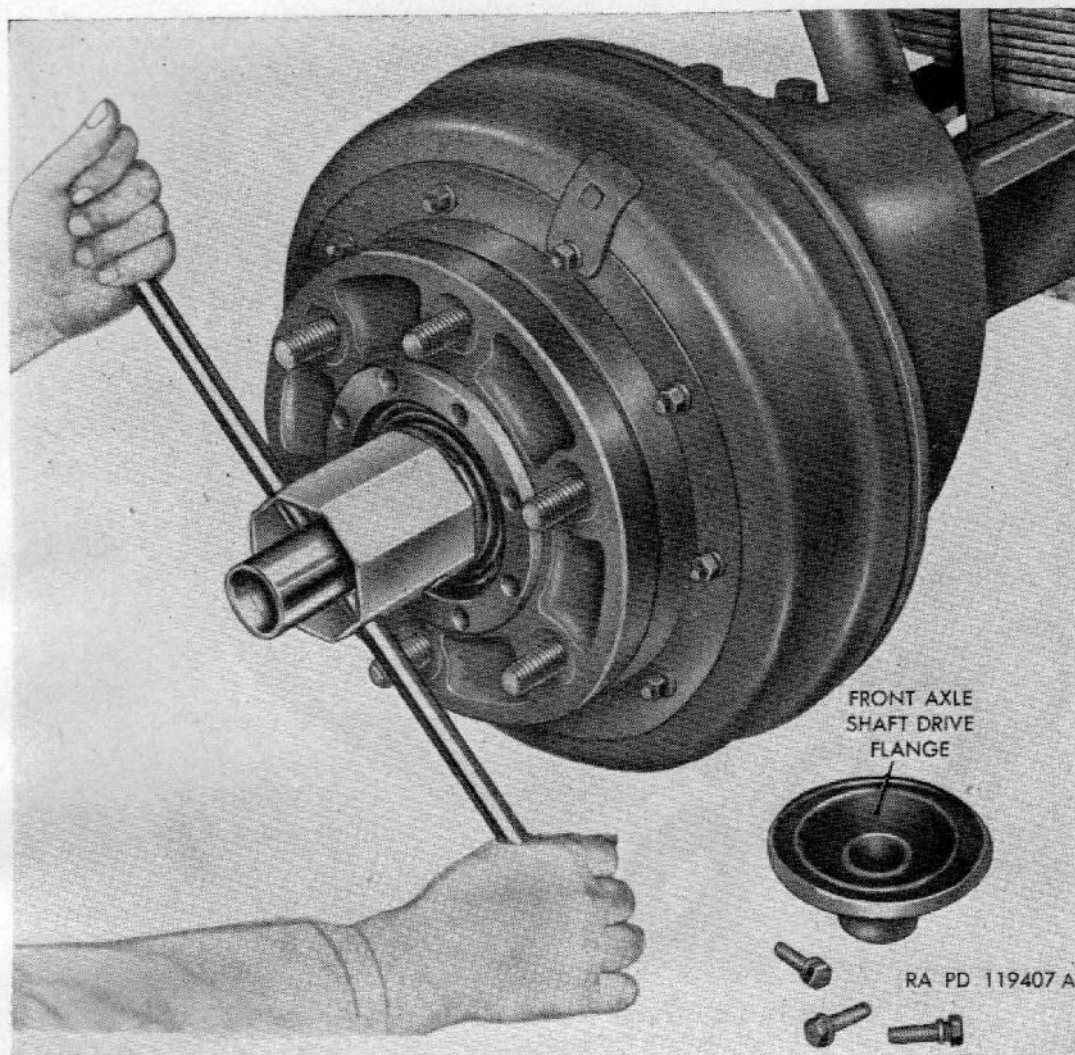
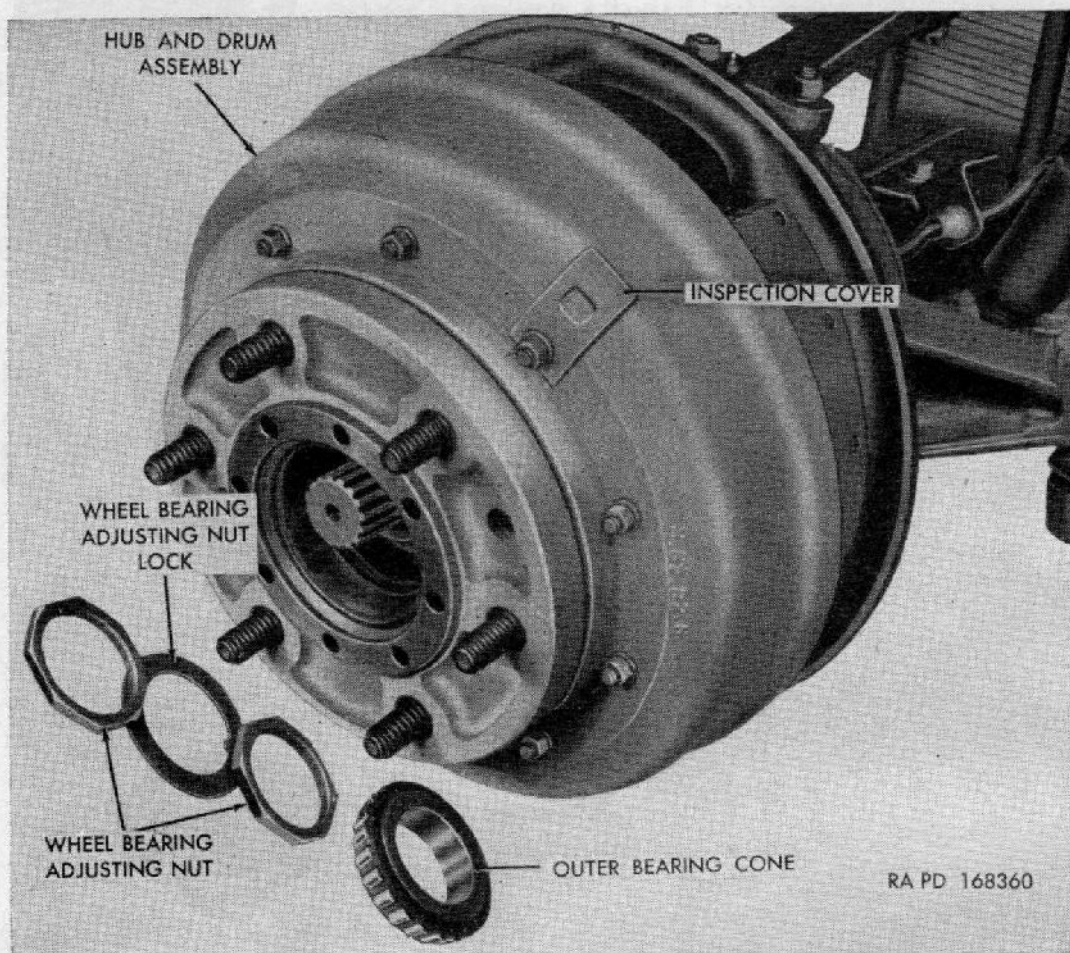
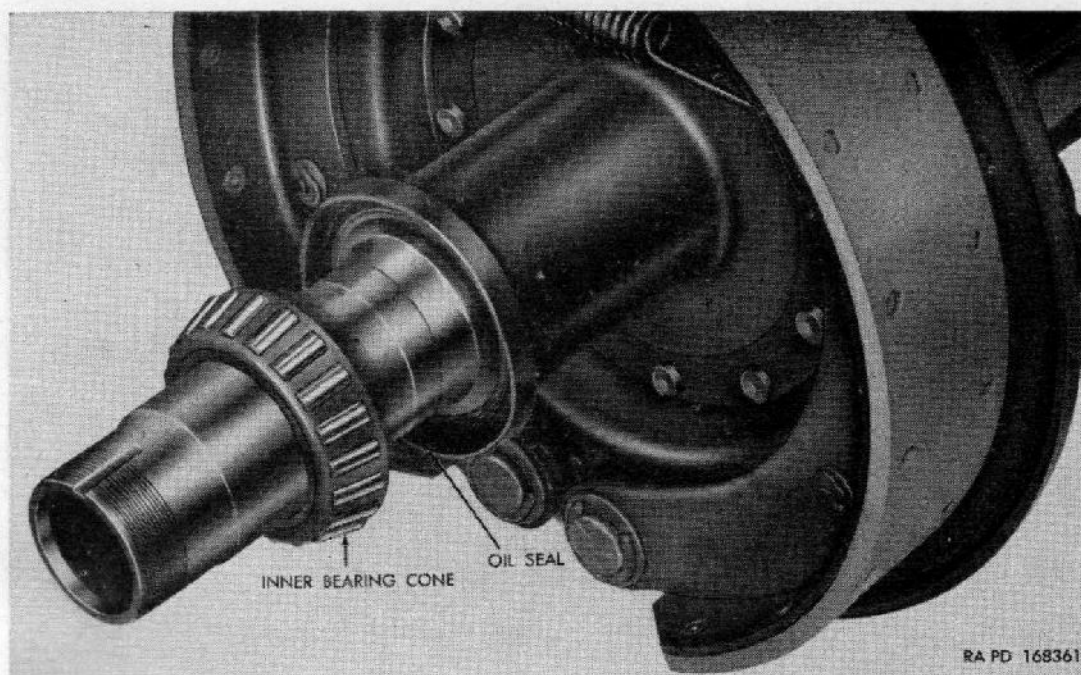

Figure 128. Adjusting wheel bearings using wrench 41-W-3748-75.
Figure 129. Outer wheel bearing—removal.
Figure 130. Inner wheel bearing—removal or installation.
a. HUB REMOVAL. Remove wheel (par. 183*a*). Remove axle shaft drive flange (front, par. 143; and rear par. 146). Straighten bent-over portions of adjusting-nut lock. Remove outer nut with wrench 41-W-3748-75 (fig. 128). Remove adjusting-nut lock; then remove inner nut with same wrench. Remove outer-bearing oil seal and oil seal wiper ring (rear axles only), outer bearing cone, and hub and drum assembly (fig. 129). Remove 10 nuts and lock washers attaching brake drum to hub assembly. Pry brake drum loose and pull drum off bolts. Remove bearing cups if necessary (*f* below).
b. HUB INSTALLATION. Install inner and outer bearing cups (*f* below). Install brake drum on hub and secure with 10 lock washers and nuts. Clean and lubricate hub and bearing cones as described in *e* below. Install inner oil seal and retainer on steering knuckle. Install inner bearing cone (fig. 130). Position hub and drum assembly over inner bearing cone. Insert outer bearing cone (fig. 129). On rear axles only, insert oil seal wiper ring and new oil seal with flat side out. Install inner nut. Install wheel and adjust bearings (*e* below). Install new adjusting-nut lock. Install outer nut and bend
c. WHEEL BEARING ADJUSTMENT (fig. 128).
- (1) *Check adjustment.* Jack up wheel to be checked until tire clears ground. Grasp tire at top and pull back and forth, or use a bar under tire. If bearings are correctly adjusted, movement of brake drum in relation to top edge of brake flange plate will be just perceptible, with wheel turning freely. If movement is excessive, adjustment is required as explained in (2) below.
- (2) *Adjust wheel bearing.* With wheel jacked up, remove drive flange (front, par. 143*a*; and rear, par. 146*a*). Straighten bent-over portions of the adjusting-nut lock. Remove outer nut with wrench 41-W-3748-75 (fig. 128). Remove adjusting-nut lock. While turning wheel, tighten inner nut until wheel binds. Back off nut about one-eighth turn; then check
d. **WHEEL BEARING REMOVAL.** Remove wheel (par. 183). Remove drive flange (front, par. 143; and rear, par. 146). Straighten bent-over portions of adjusting-nut lock. Remove outer nut, adjusting-nut lock, and inner nut (fig. 128). Remove outer-bearing oil seal and oil seal wiper ring (rear axles only), outer-bearing cone, and hub and drum assembly (fig. 129). Remove inner-bearing cone (fig. 130).
- (2) *Install bearing.* Install inner-bearing cone (fig. 130). Coat inner bearing cage and fill space between inner bearing and oil seal with lubricant. Position hub and drum assembly over inner bearing. Insert outer-bearing cone (fig. 129). On rear axles only, install oil seal wiper ring and oil seal with flat side out. Install inner nut and adjust bearings (*c* above). Install adjusting-nut lock and outer nut. Install drive flange (front, par. 143*c*; and rear, par. 146*b*) and wheel.